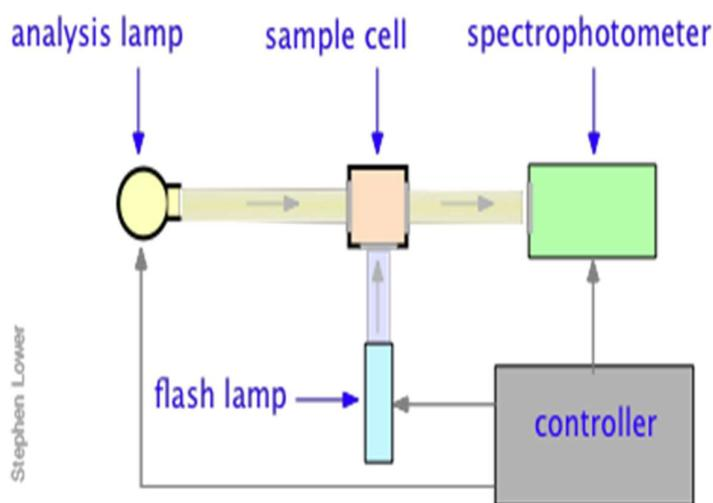

**Figure 14.5: Schematic diagram of pressure-jump method**
- Then, the pressure is reduced in roughly  $10^{-4}$  seconds to an atmospheric pressure by piercing a thin metal drill bit into the vessel's wall (**Figure 14.5**).